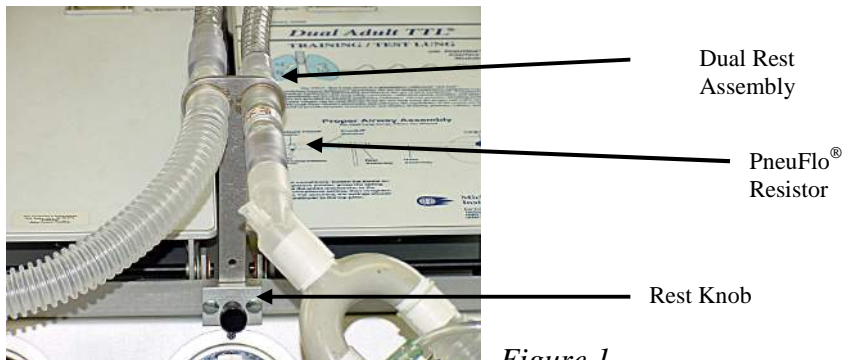

Figure 1
1. Loosen the *Rest Knob* on the front of the TTL and insert the *Dual Rest Assembly* into the holder. Lock it in place by tightening the knob. (*Figure 1*)
2. Select the desired *PneuFlo*[®] *Resistor* to simulate airway resistance and connect it to the proximal (outward-facing) opening on the rest assembly. (*Figure 1*)